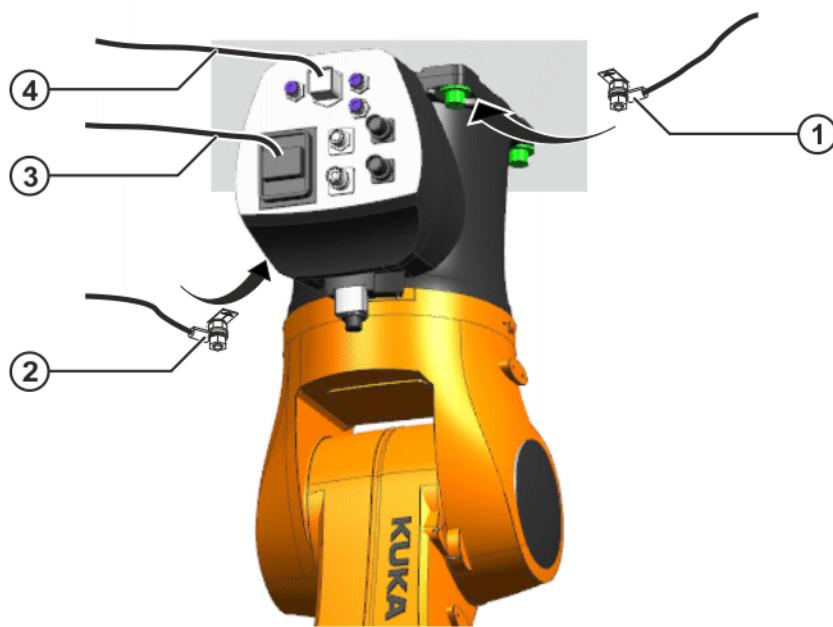

Fig. 8-14: Connecting the supply lines
20. Connect motor cable X30 and data cable X31 (>>> Fig. 8-14).